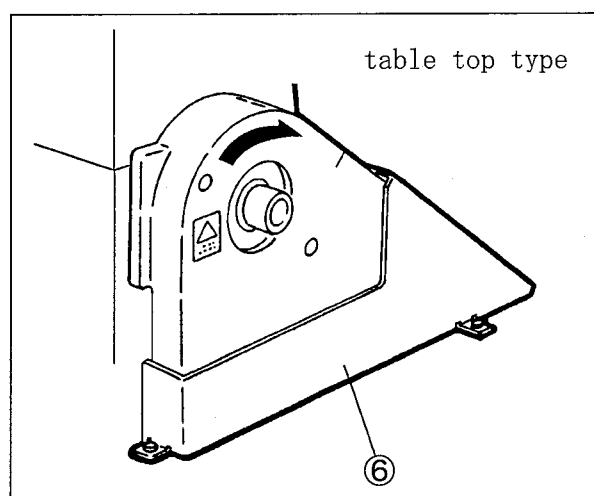

Fig. 12
- (2) Fix the belt cover(lower)⑥ on the machine table only for table top type. (See Fig. 12)